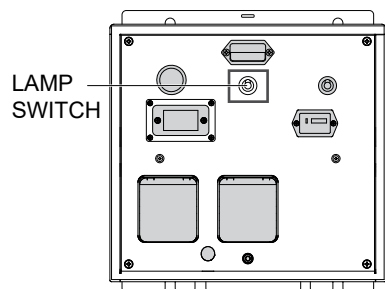

Figure 19. Turning On Lamps
1. Turn on the lamp switch (Figure 19).